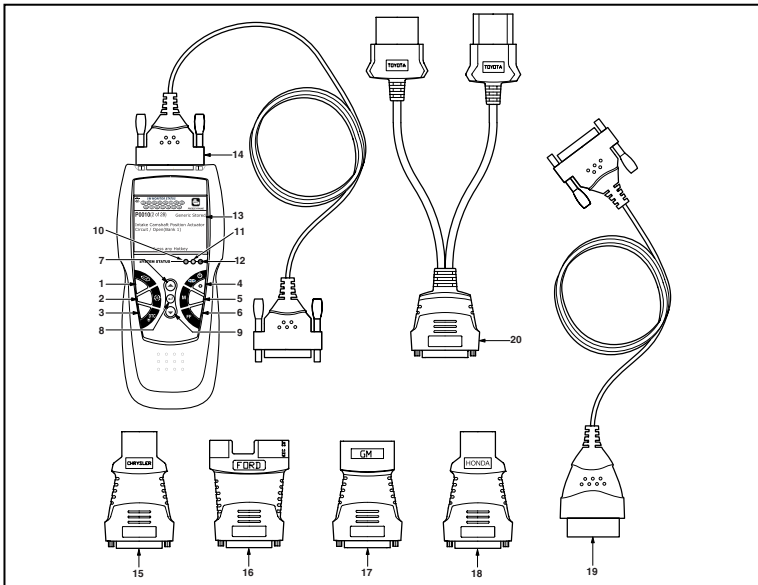

Figure 1. Controls and Indicators
See Figure 1 for the locations of items 1 through 20, below.